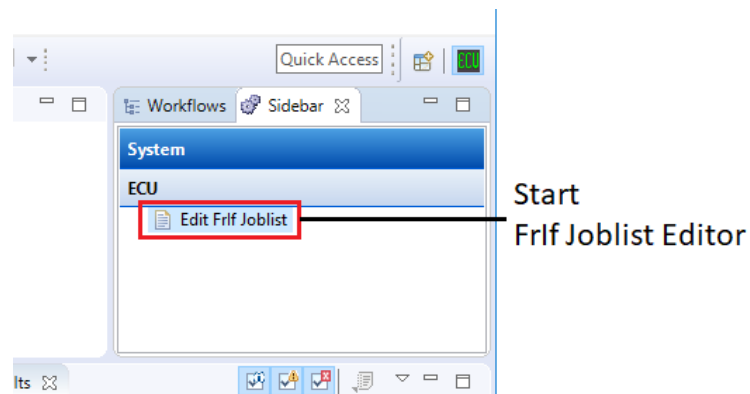

Figure 4.5. Start the FrIf Joblist Editor
3. Double-click **Edit FrIf Joblist** in the **Sidebar** view as shown in Figure 4.5, "Start the FrIf Joblist Editor".